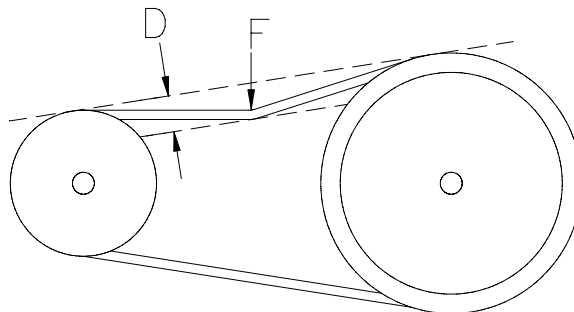

Fig. 6-1 Tension Check
3. Turn the two belt tensioning adjustment rods on the side of the mounting frame to tighten the belt until the proper tension is obtained (see Fig. 6-1). To check for correct sheave alignment, place a straight edge on the faces of the two sheaves. Proper alignment is obtained when all the gaps between the straight edge and the sheaves are minimized and less than 1/8". Re-tighten the four motor mounting bolts.